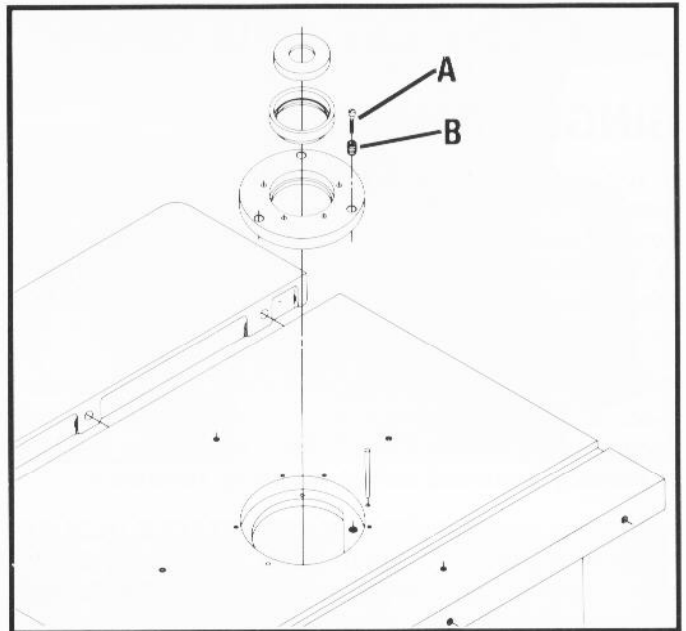

Fig. 16
Three table inserts are provided for various size cutters, as shown in Fig. 16. The large insert is adjustable and should be set flush with the table as follows:
1. Remove the three slotted head screws (A) Fig. 16.
2. Using a screwdriver, turn the three adjusting screws (B) Fig. 16, until insert is flush with table. Then replace the slotted head screws (A).